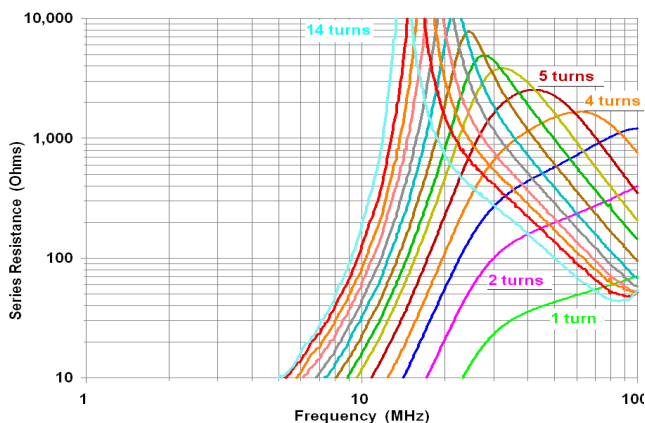

Fig 34 – R_s for chokes on 2.4" o.d. Fair-Rite #61
- ♦ **Inductive Ferrite Choke Balun** The line is wound around a toroidal ferrite core that has low loss at the frequency where the balun is used, so all (or nearly all) of the impedance is inductive. The line may be coax or it may be bifilar (parallel wires). Reiser's toroidal baluns are wound on a material like #61 that has low losses at HF (Fig 12, Fig 34). [Reiser also introduced the concept of a crossover winding style, whereby half of the choke was wound in one direction around the toroid, then crossed 180 degrees to the other side of the toroid and wound in the opposing direction. Sevick noted that he was unable to measure any effect of this technique. My measurements confirm Sevick's results.]